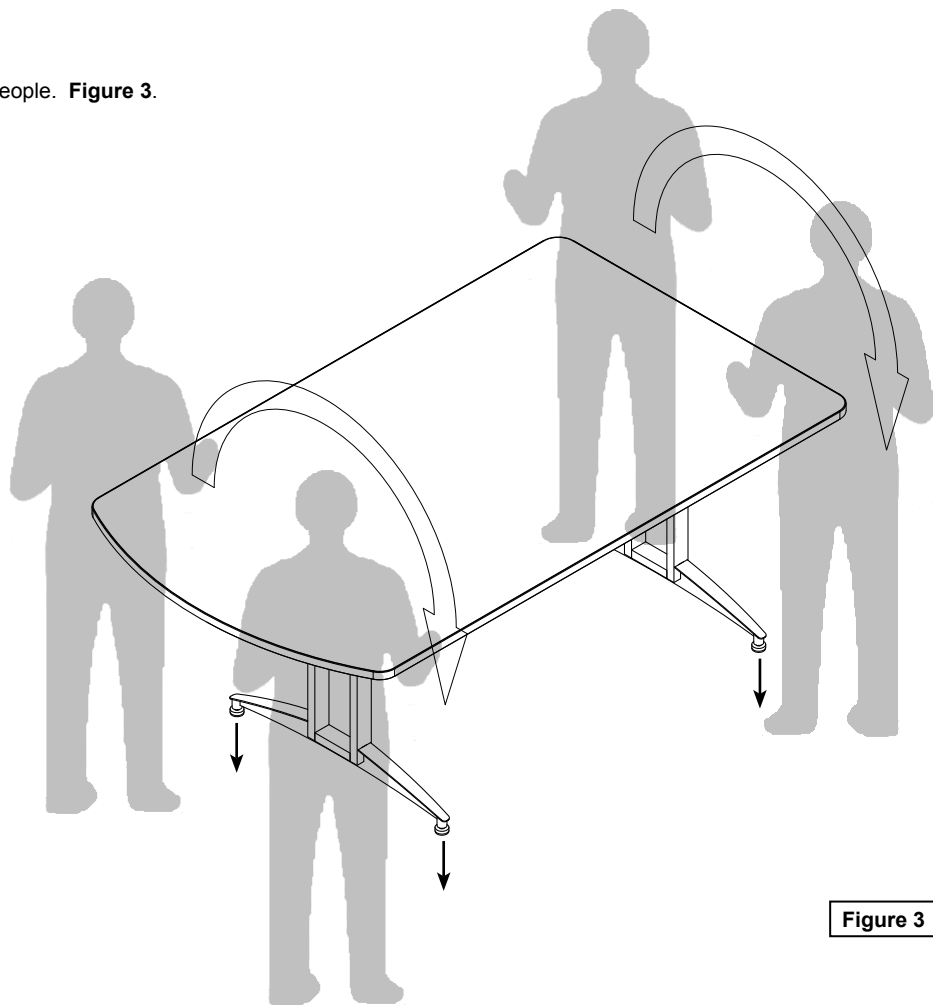

Figure 3
1. Carefully flip the table upright-this will take 3-4 people. **Figure 3.**